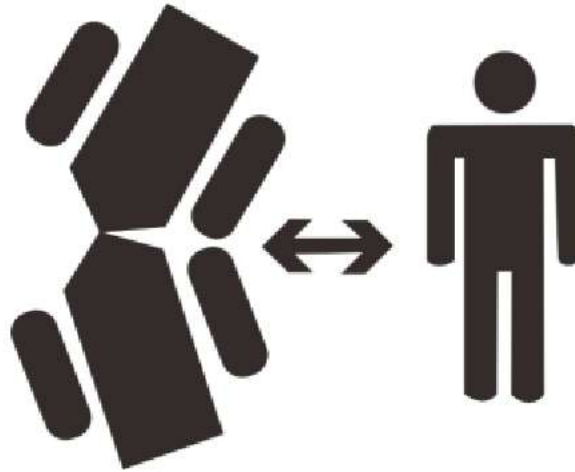

Figure 3-3 Keep the distance
(1) Do not place hands, arms or any other parts of the body between movable parts, as shown in Figure 3-3, such as between the working devices and the oil cylinder, between the vehicle body and the working devices, and the hinge joints of the vehicle frames. With the movement of the working devices, the space at the link mechanism will increase or decrease, and if a person approaches, it may cause a serious accident. If you need to enter between the moving parts of the machine, you must turn off the engine and place the control handle in the neutral position